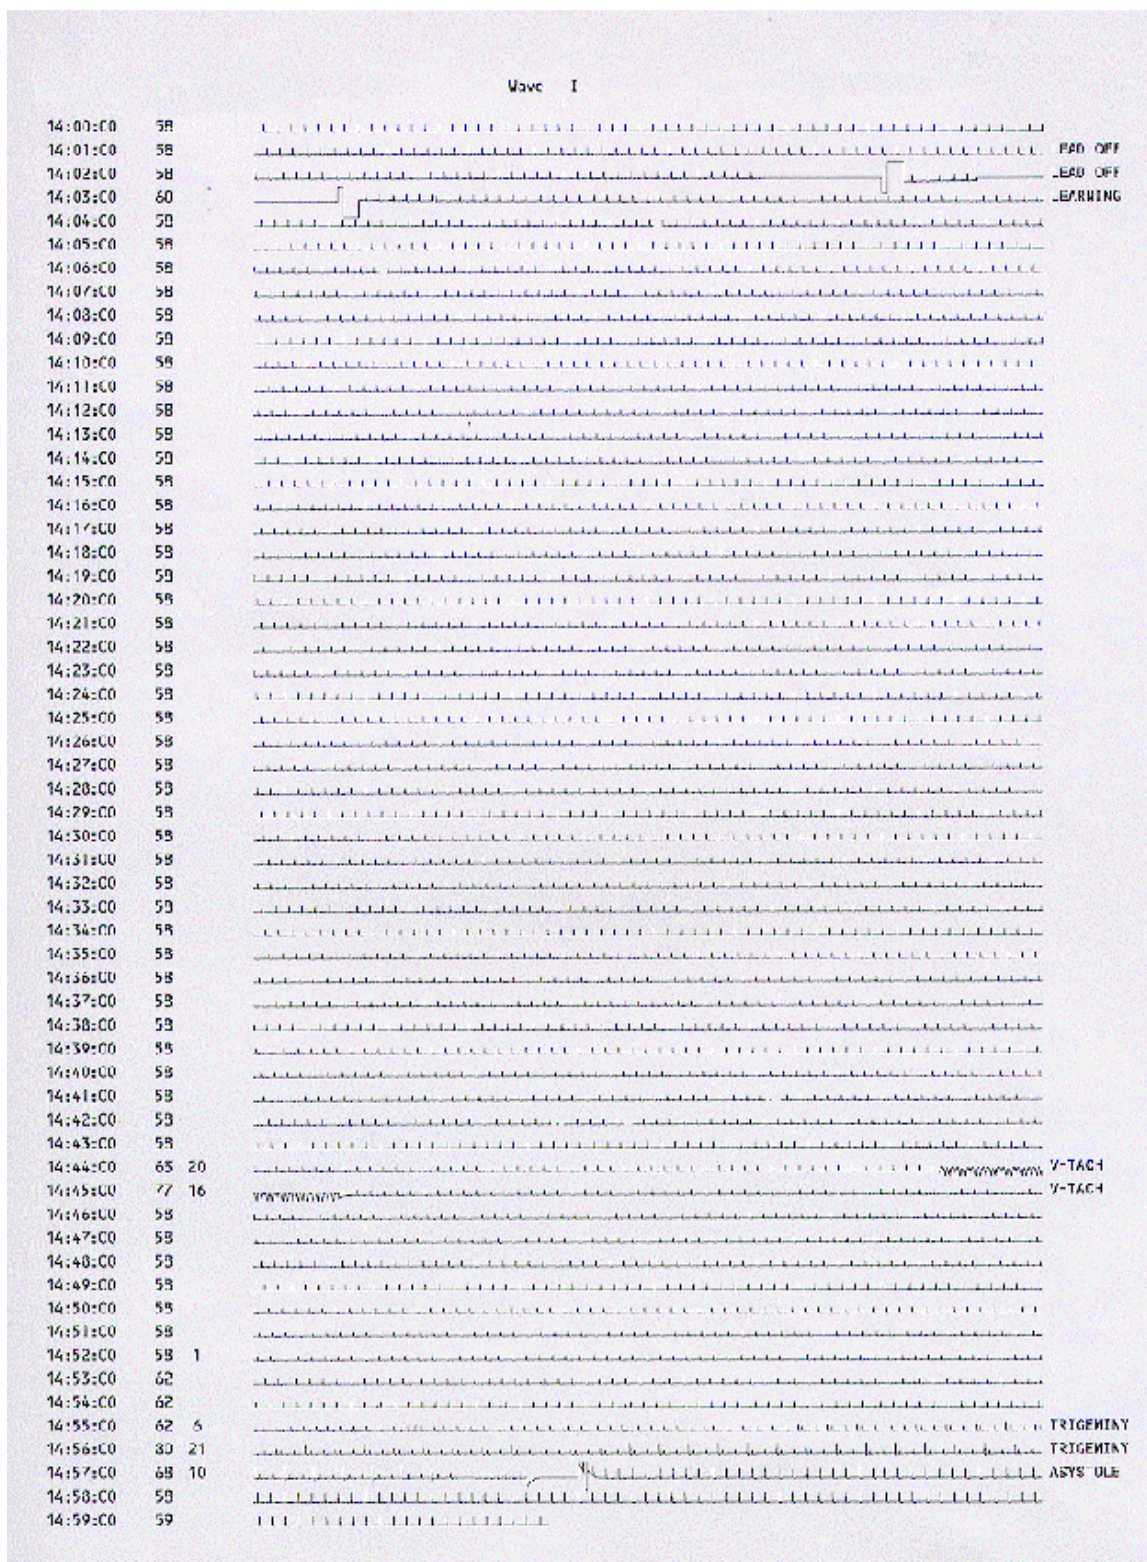

Fig. 114. 24-Hour Full Disclosure Example
- 24-Hour Full Disclosure report, for the hour in question (see Figure 114 on page 225).